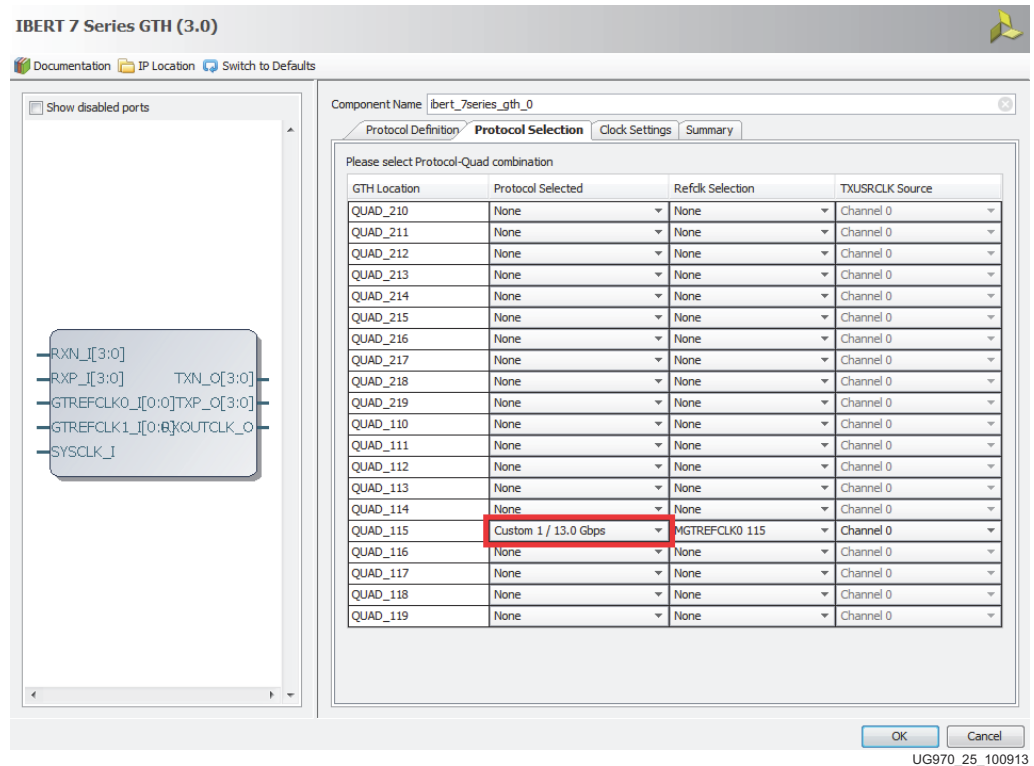

Figure 1-25: Customize IP - Protocol Selection
8. In the Protocol Selection tab, use the **Protocol Selected** drop-down menu next to **QUAD\_115** to select **Custom 1 / 13.0 Gbps** (Figure 1-25).